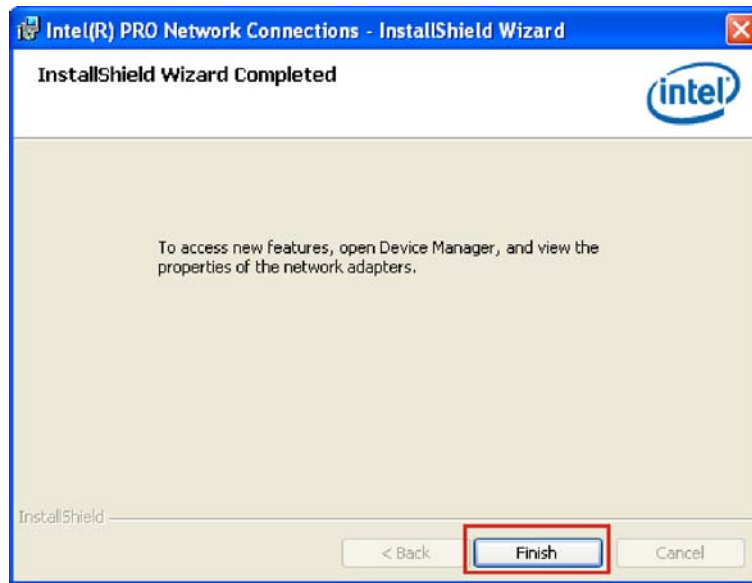

Figure 6-20: LAN Driver Installation Progress
Step 12: The window shows the installation is complete (Figure 6-20).